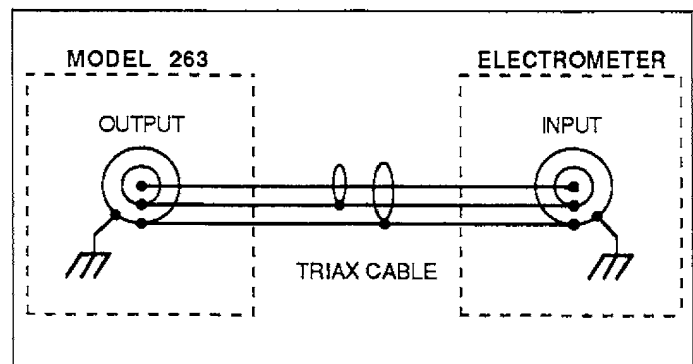

Figure 3-21. Unguarded Sourcing to Electrometer
sourcing, simply connect the output of the source to the input of the electrometer as shown in Figure 3-21. Adapters for non-triax input connectors are described in paragraph 3.10.1. Guarded connections should be used for sourcing  $>100\text{M}\Omega$ . Required guarding schemes are described in paragraph 3.7.1.
- B. To source voltage to an electrometer, connect the output of the Model 263 to the input of the electrometer as shown in Figure 3-21. If the electrometer does not have a triax input connector, an adapter will be needed (see paragraph 3.10.1.).